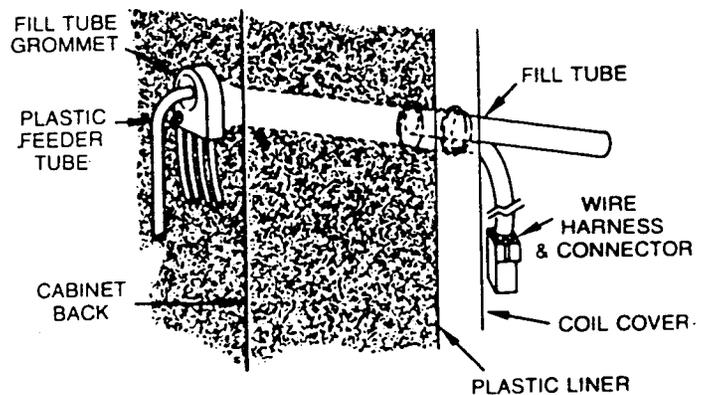

Figure 4 Cross-section view of fill tube & ice maker harness properly installed
1. Wet the end of the plastic fill tube and push it into the exit end of the ice maker wire harness grommet as far as it will go, approximately 1 inch (figure 4 shows these items installed in the cabinet).
5. Push the short end of the ice maker harness and rubber grommet, including the plastic fill tube, through the opening (see figure 4). Then, using a twisting motion, seat the rubber grommet in the cabinet hole, making sure the small hole in the grommet is aligned with the small one in the cabinet back. NOTE: the grommet is intended to fit very tightly to provide a good seal against the cabinet back.